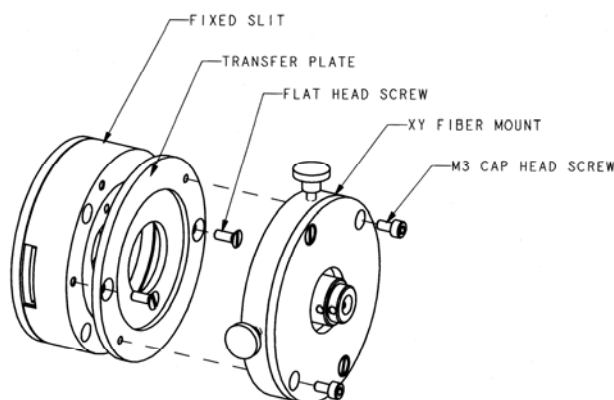

Figure 24. Mounting the XY Fiber Optic Mount Transfer Plate to a Slit Assembly
1. Mount the XY Fiber Optic Mount (P/N AFO-XY) transfer plate to the slit assembly using two M3 flat head screws (see Figure 24). Two 6/32" flat head screws will be left over as two sets of screws are provided.